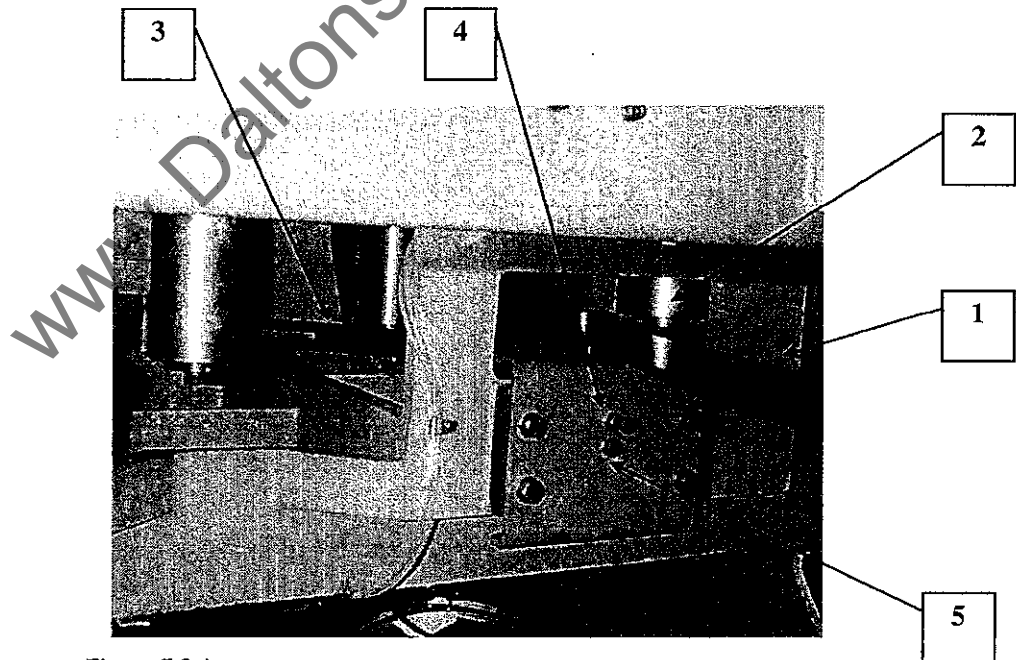
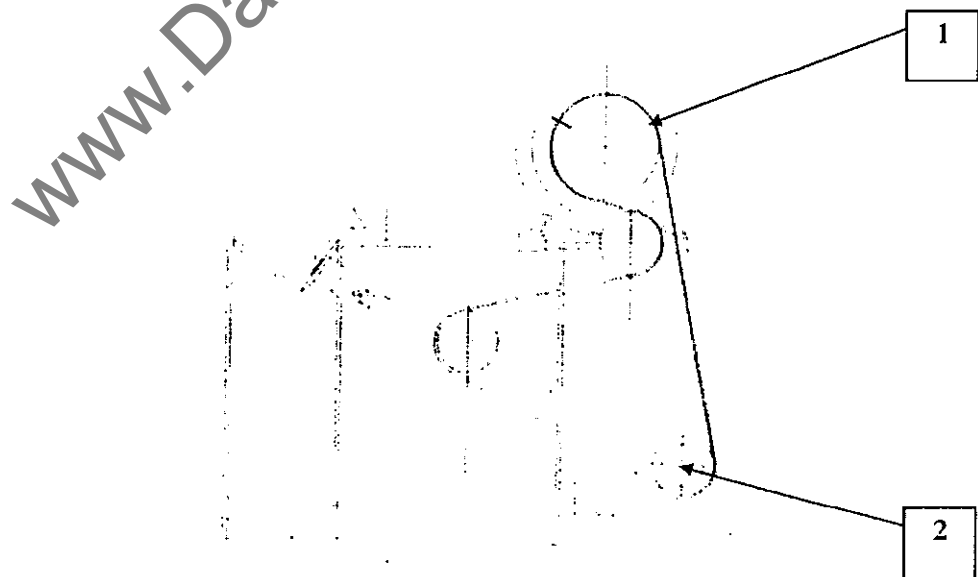

Figure 7.3.4
Figure 7.3.7
7.3.4 Removal of K30 Vertical Spindles (Fence and Near Side Head) (Figure 7.3.4.)
4. Place the supplied lever tool ((1) Figure 7.3.4.) with the hole in the tool fitting over the idle belt roller pivot.
5. Applying force on the lever push the idle roller (2) back against the gas spring pressure and remove the belt. **Please note** to remember to allow the gas spring (3) to gently push the idle roller back after the belt is removed.
7.3.7 Replacing K30 Fence and Near Side Head Drive Belts (Figure 7.3.7.)
3. Place the supplied lever tool (Figure 7.3.7.) with the hole in the tool fitting over the idle belt roller pivot.
6. Refer to Figure 7.3.7. to ensure the direction of the belt conforms to the spindle position on the machine.
7. When replacing the belt it should be firstly placed around the drive motor pulley (1) then the fence spindle and near side spindle and finally over the idle roller (2).
8. Turn the spindle to check the belt is running true and equal on the pulleys. The idle roller may need to be pitched by adjusting the pivot screw (refer to (4) figure 7.3.4) to achieve this.
9. Tighten the locking screw (refer to (5) figure 7.3.4) once the belt has been trued in relation to the motor pulley.